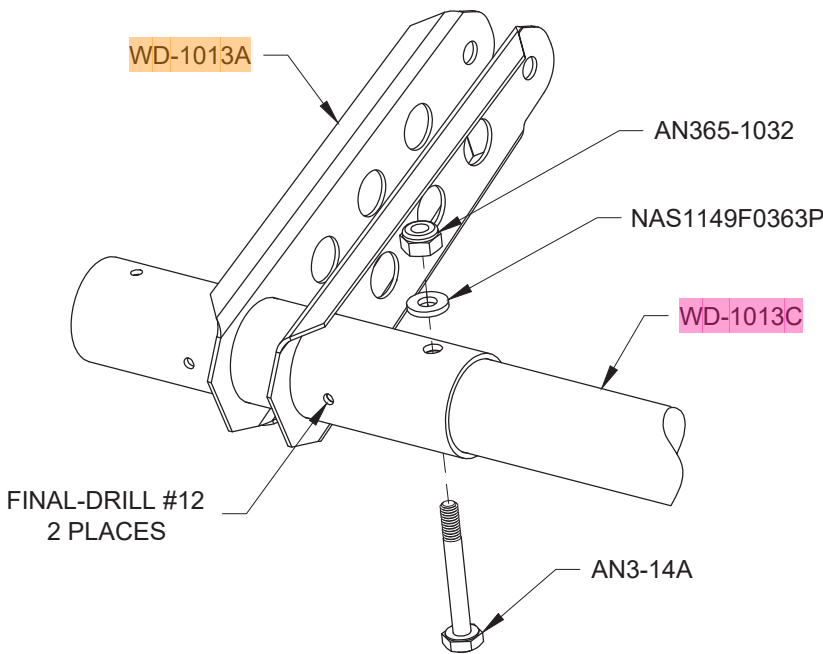

FIGURE 4:
Step 4: Bolt the **WD-1013A** Flap Crank to the **WD-1013C** Flap Torque Tube as shown in Figure 4. Remove the clecos. Drill as per the call-out. Install a second set of hardware like the first in this hole.